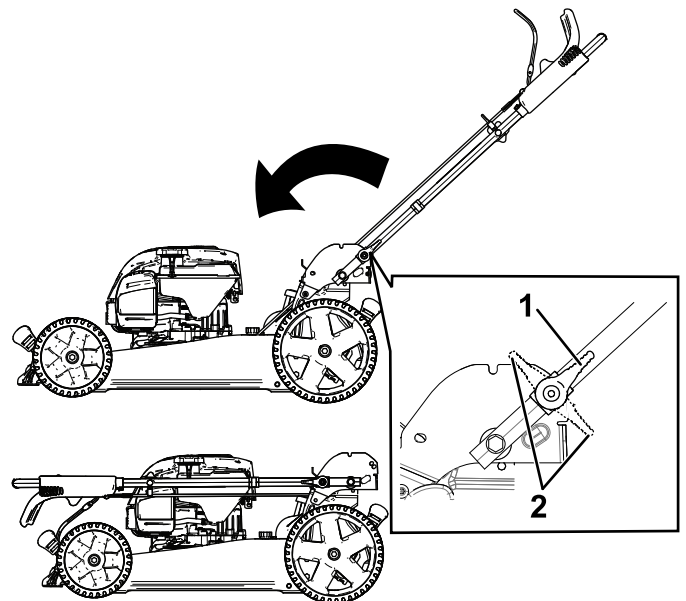

Figure 21
3. Disengage the handle locks (Figure 21).
4. Fold the handle fully forward (Figure 21).